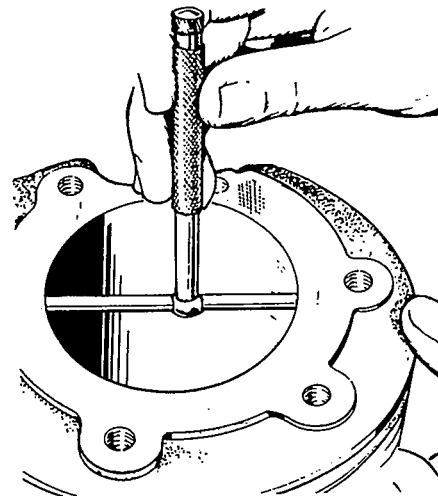

FIGURE 64. METHODS OF MEASURING THE DIAMETER OF A CYLINDER BORE
2. Record measurements taken at top and bottom of piston travel as follows (see Figure 64):